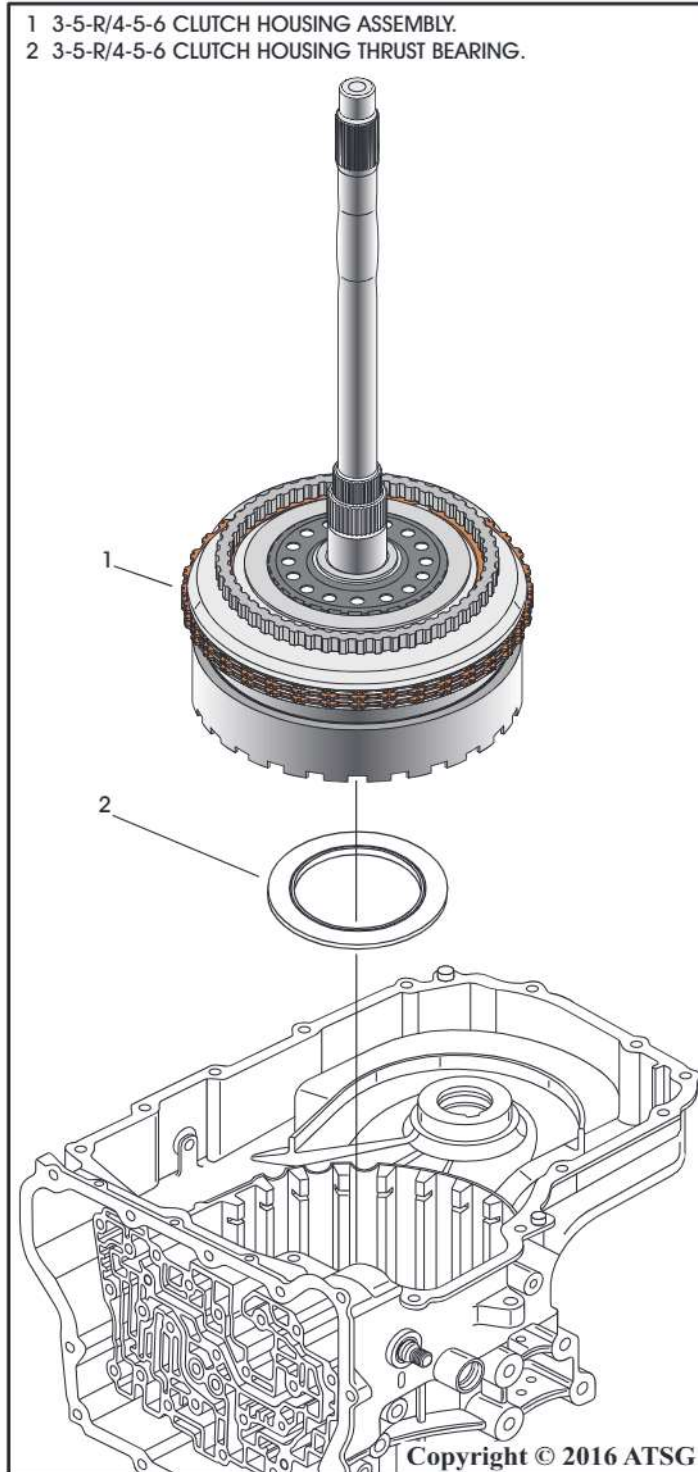

Figure 77
80. Remove the 3-5-R/4-5-6 clutch housing as an entire assembly as seen in Figure 77.
81. Remove and inspect the 3-5-R/4-5-6 Clutch housing to case thrust bearing shown in Figure 77.